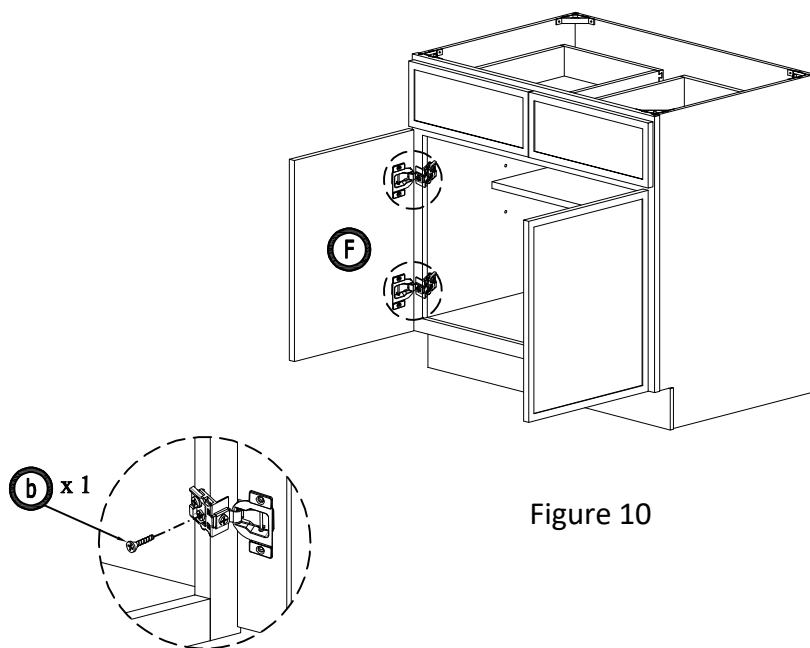

Figure 10
10. Assemble door with hinges to left and right of cabinet frame by 4 screw 4/5" (Figure 10)